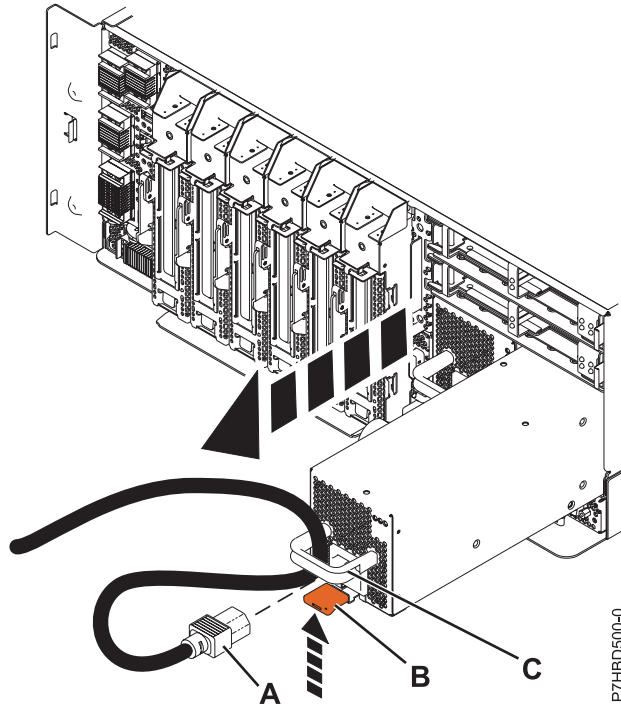

Figure 2. Removing the power supply
7. Pull the power supply away from the system, as shown in Figure 2 on page 4.